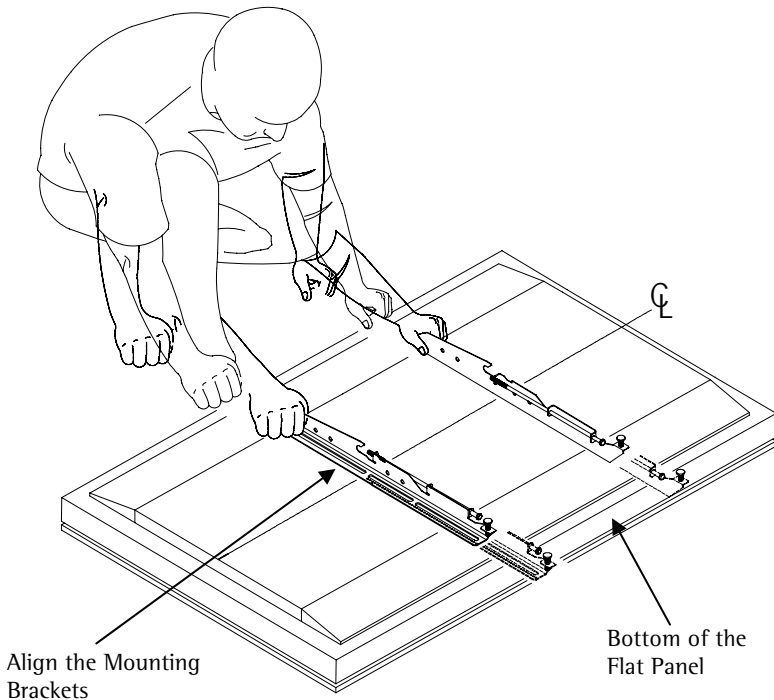

Figure 5
5. Match the center of viewing guide with the centerline you marked in step 1 (Figure 5).